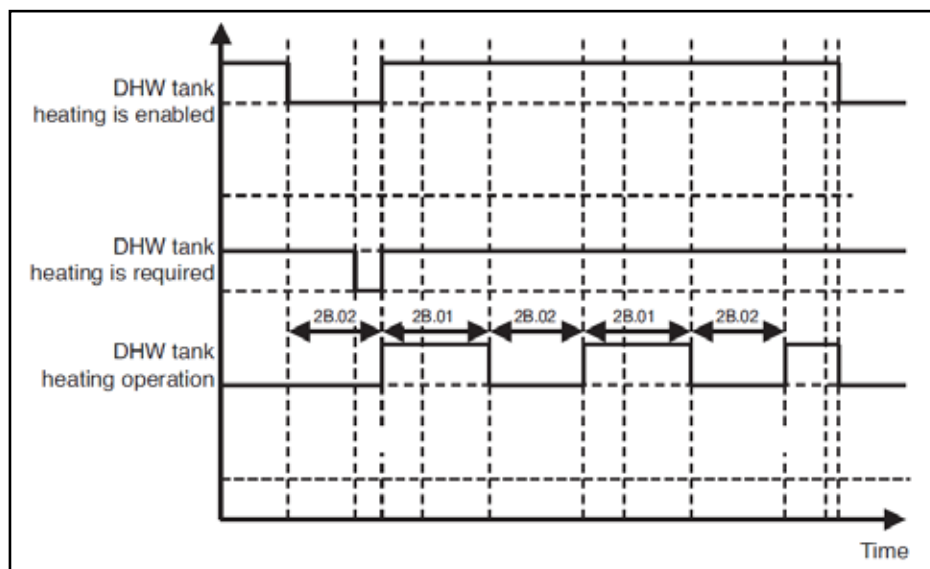

Figure 60: DHW Tank Heating Time Diagram
- Refer to Figure 60 for examples of a timing sequence chart.